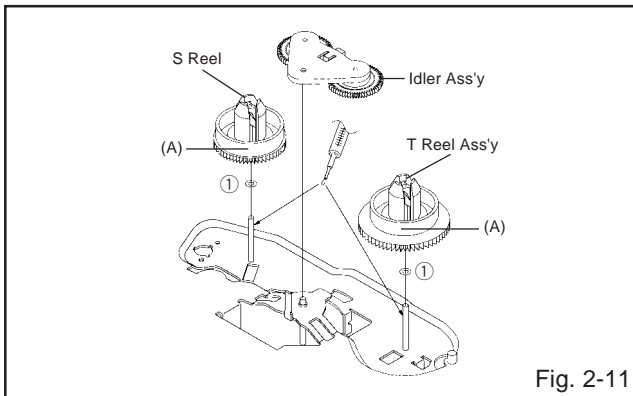

Fig. 2-11
2-11: S REEL/T REEL ASS'Y (Refer to Fig. 2-11)
4. Do not touch the section "A" of S Reel and T Reel Ass'y. (Use gloves.) **(Refer to Fig. 2-11)** Do not adhere the stains on it.